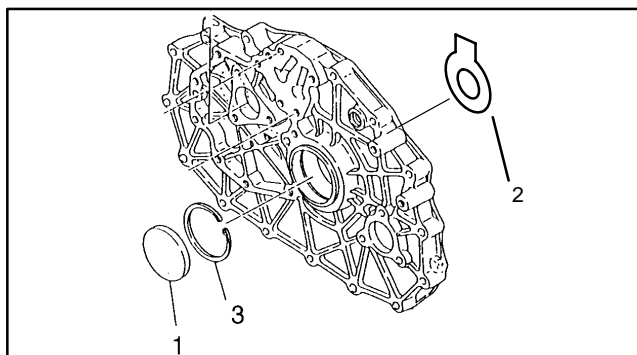

Figure 111
**IMPORTANT:** On early versions of the center plate, use one thick, tabbed shim (Item 2) (Fig. 111).
22. Insert shim (Item 2) against the bearing. Use thickest shim possible that will permit installation of the snap ring. (Fig. 111 and 113).